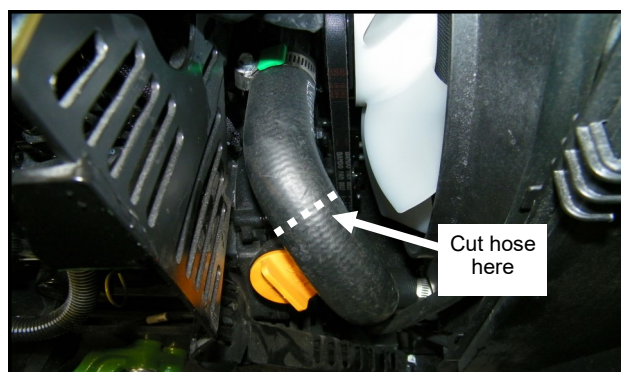

Fig. 8.3 (Cut Lower Radiator Hose)
- 8.3 For the return line from the heater, cut the lower radiator hose in the location shown. See Figure 8.3. Install the enclosed T-fitting with large hose clamps provided. NOTE: for best results, attach the upper side first.